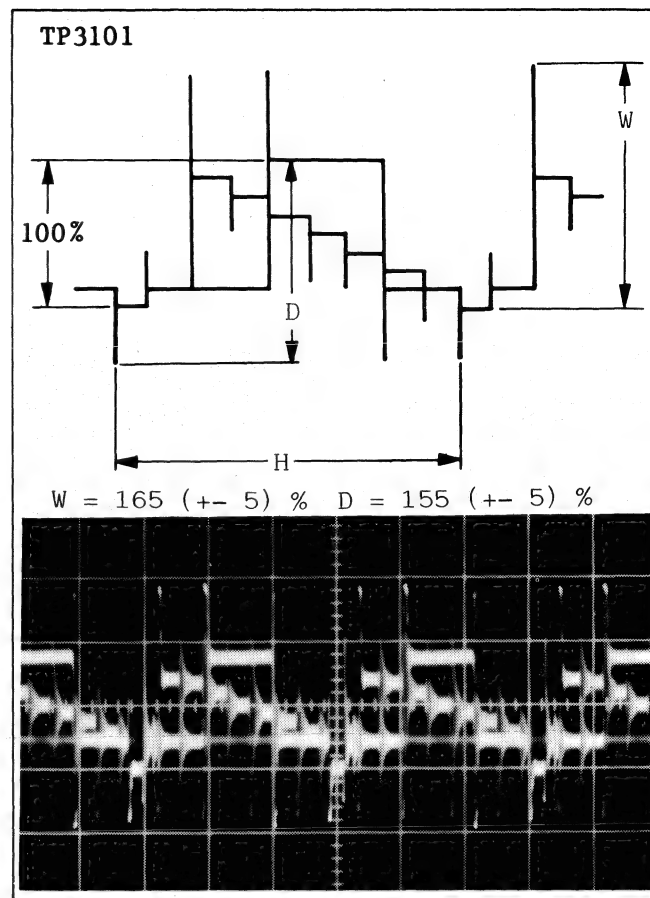

Fig. E26 TP3101 0.2V/20 u-sec. div.
4. Adjust the WHITE CLIP (R3101) and the DARK CLIP (R3102) on the Luminance C.B.A. so that the overshoot and undershoot are as shown in Fig. E26.